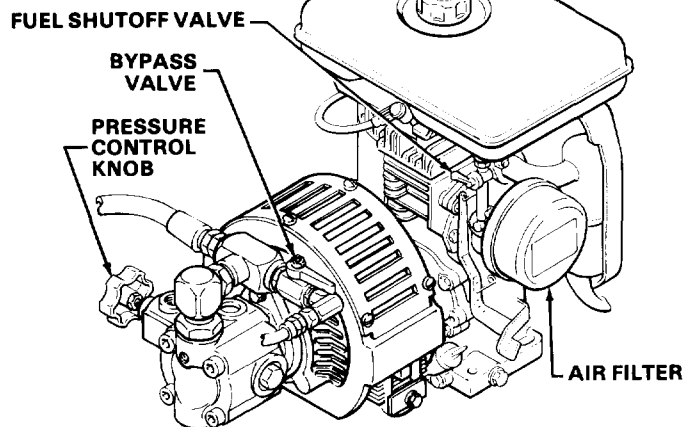

Fig 8
- a. Open the bypass valve to make startup easier. In the open position, the valve lever is parallel to the body of the valve. Refer to Fig 8. Close the filter drain valve.
- c. Open the fuel shutoff valve to a vertical position. See Fig 8.
- f. After the engine is warm, gradually open the choke lever and close the bypass valve. See Fig 8 and 9.
To stop the engine in an emergency, depress the engine STOP button. Close the bypass valve if possible. See Fig 8. Then relieve the fluid pressure in the pump and hose as instructed in the **Pressure Relief Procedure Warning**, on page 8.
- f. Squeeze the trigger and *slowly* turn the pressure control knob *clockwise* just enough to start the pump. See Fig 8.